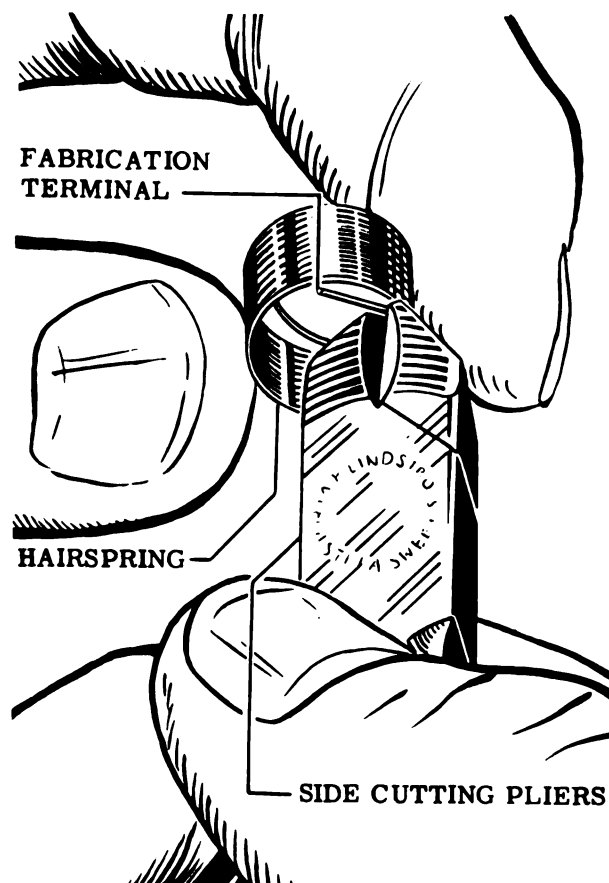

Figure 50
4. If a new hairspring is being used, cut off the fabrication terminal at about one wire width beyond the bend. Use Tool No. 78. See Fig. 50.